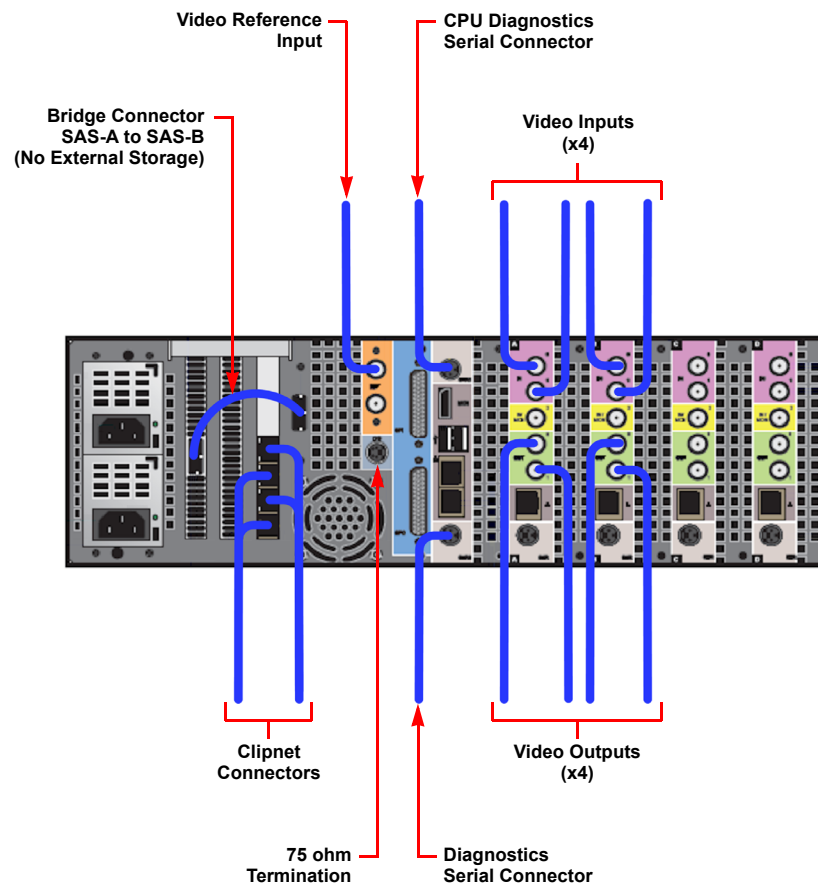

Fig. 3-4: LiveTouch Server Connections (Dependent on Unit Configuration)
- 1 Remove the bridge cable between ports SAS-A and SAS-B on the rear panel of the sQ 1800 Video Server, see Figure 3-4 on page 57.